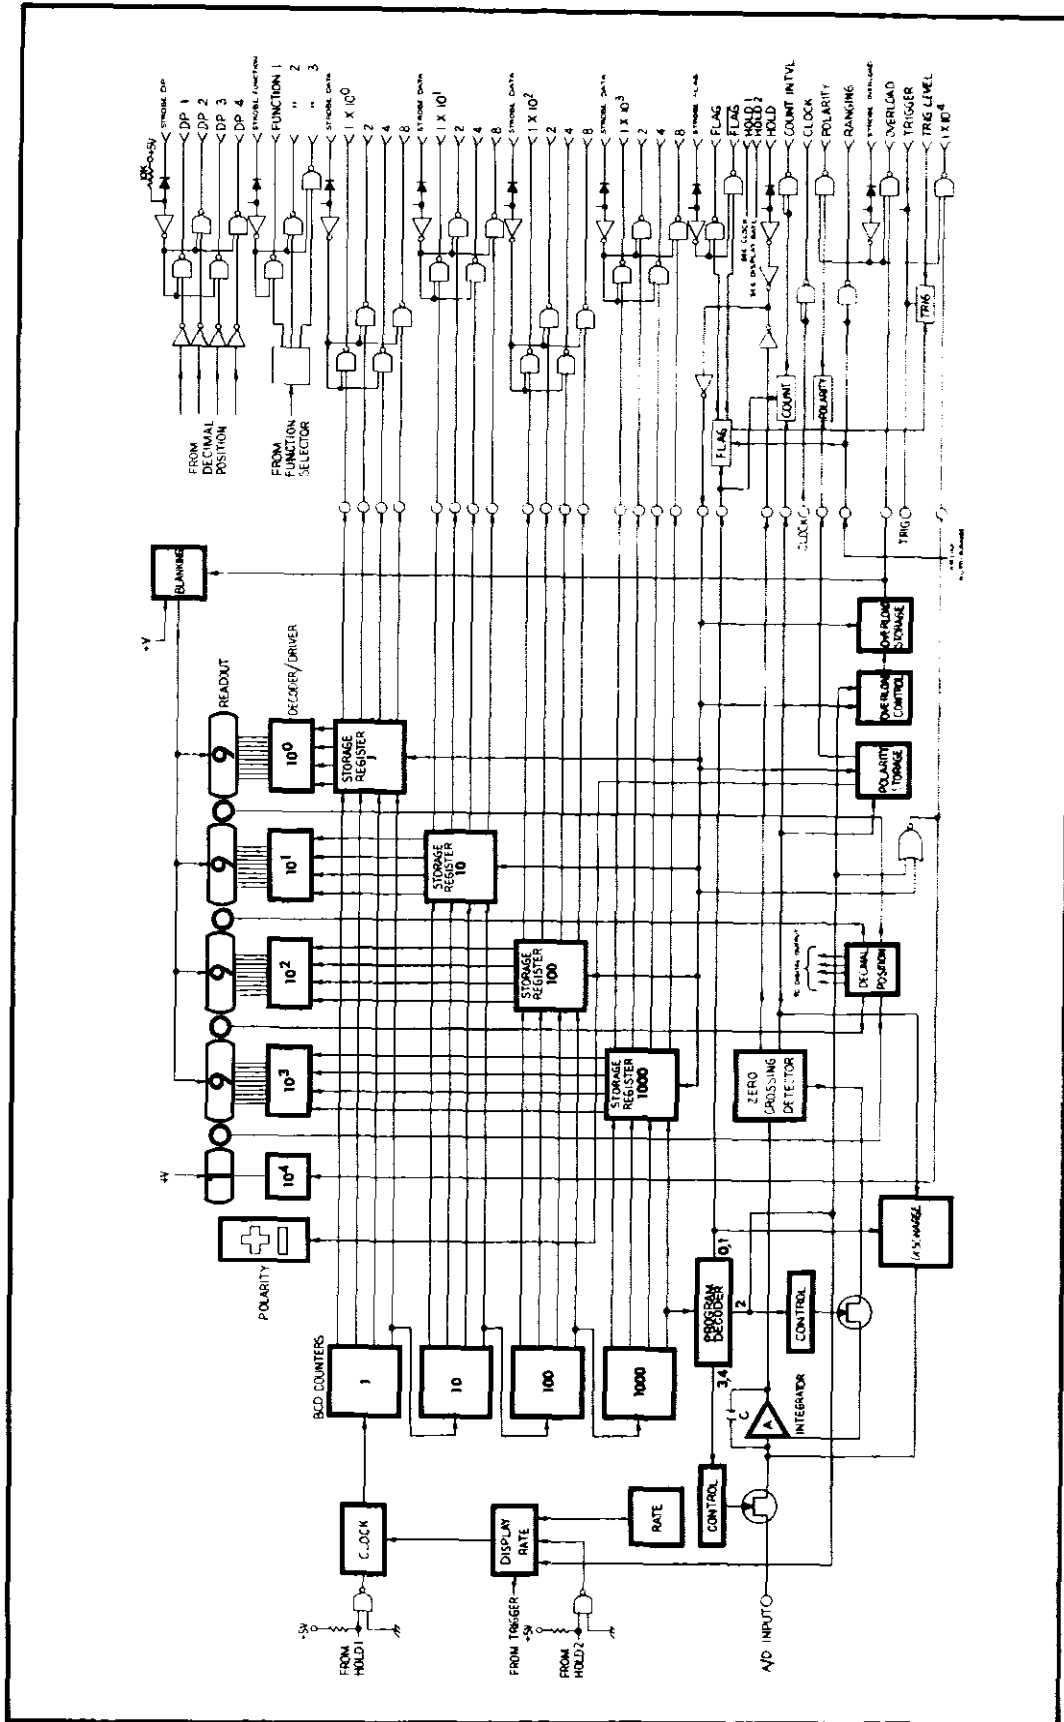

FIGURE 18. A-to-D Converter Block Diagram.
a. General. The digital section includes the analog-to-digital converter, digital display, and digital output option as shown in Figure 18.
3. The A-to-D converter is composed of six major circuits as follows. See Figure 18 for a block diagram.
d. Digital Output Option. The digital output includes output buffers for all output information. The buffers utilize "Open Collector" output transistors as shown in Figure 8. The buffer stages have provision for optional "STROBE" control as shown in Figure 18.